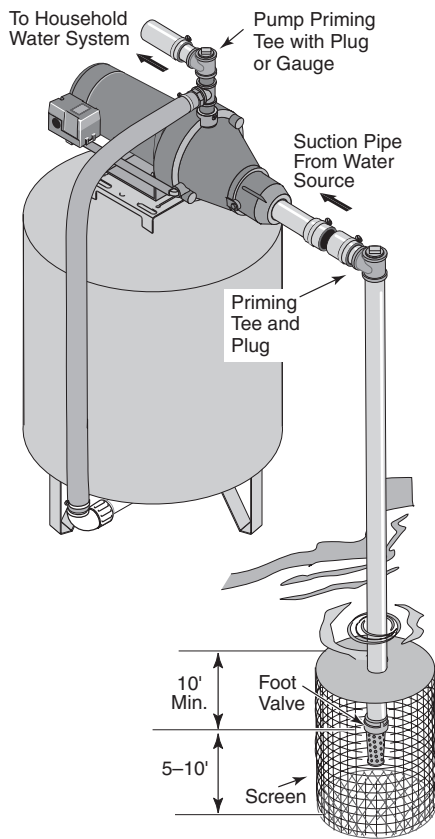

Figure 3: Surface Water Installation
Installation for Surface Water (Figure 3)
2. Assemble a foot valve and suction pipe (see Figure 3). Make sure that the foot valve works freely. Use PTFE pipe thread sealant tape on threaded pipe joints. Protect the foot valve assembly from fish, trash, etc, by installing a screen around it (see Figure 3).
4. Install a priming tee, priming plug, and suction pipe to the pump (see Figure 3). Support the pipe so that there are no dips or sags in the pipe, so it doesn't strain the pump body, and so that it slopes slightly upward from the well to the pump (high spots can cause air pockets which can air lock the pump). Seal the suction pipe joints with PTFE pipe thread sealant tape. Joints must be air- and water-tight. If the suction pipe can suck air, the pump cannot pull water from the well.